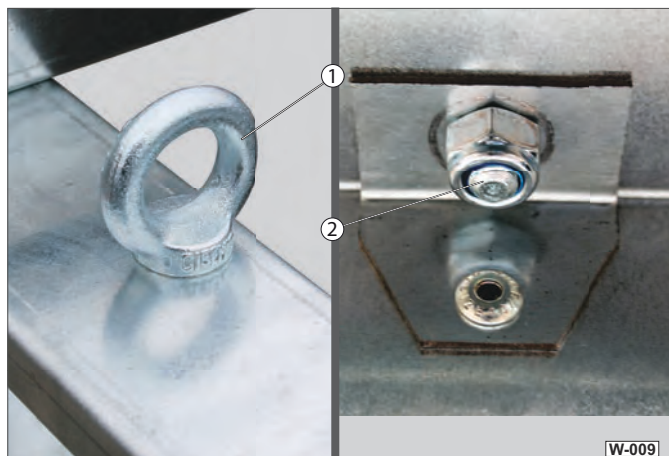

Fig. 9 Check tie-down points
- ▶ Regularly check (at least every 6 months) the tie-down rings (Fig. 9 /1) for cracks, distortion, deformation.
- ▶ Regularly check (at least every 6 months) the screw connections (Fig. 9 /2) are securely fastened.